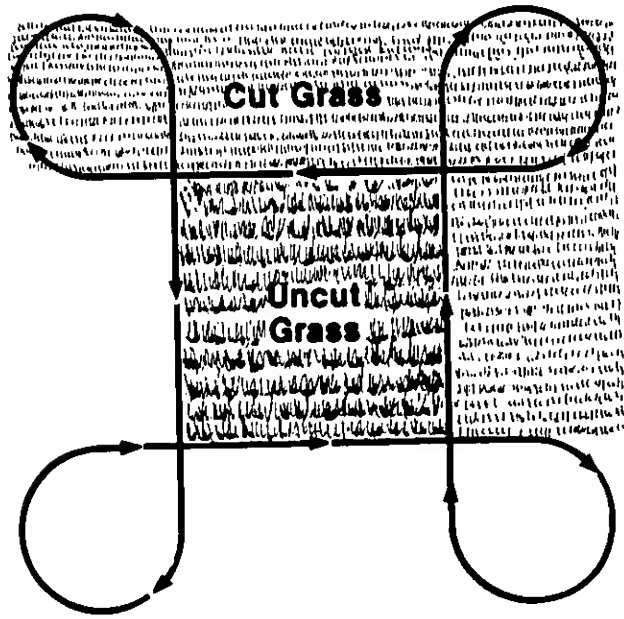

Figure 47.
4. Follow the mowing procedure shown in Figure 47.